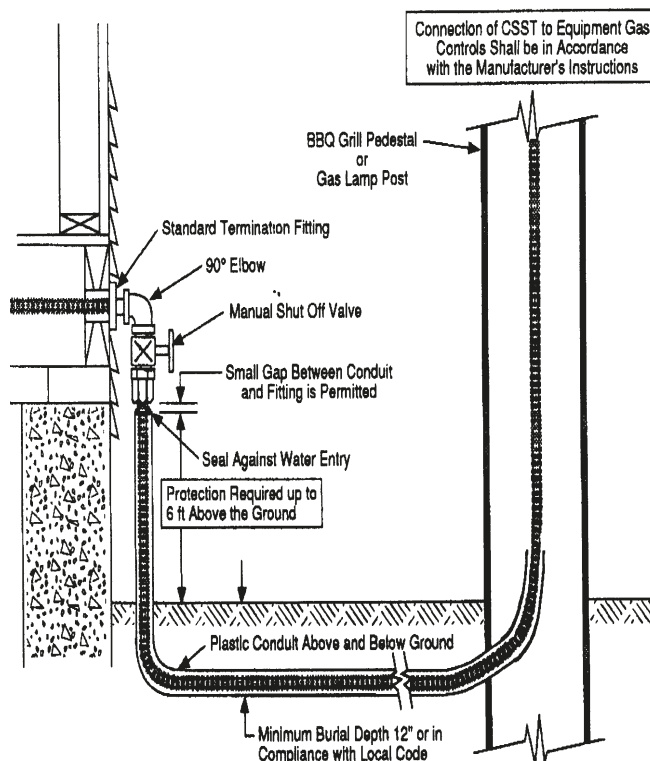

Figure: 4-21
4. Yard mounted lights shall be connected to the **TracPipe**® system as shown in Figure: 4-21. All piping installed below grade shall be protected by non-metallic, water-tight conduit or **TracPipe**® PS-II for underground use. Exposed ends of the conduit shall be sealed against water entry.